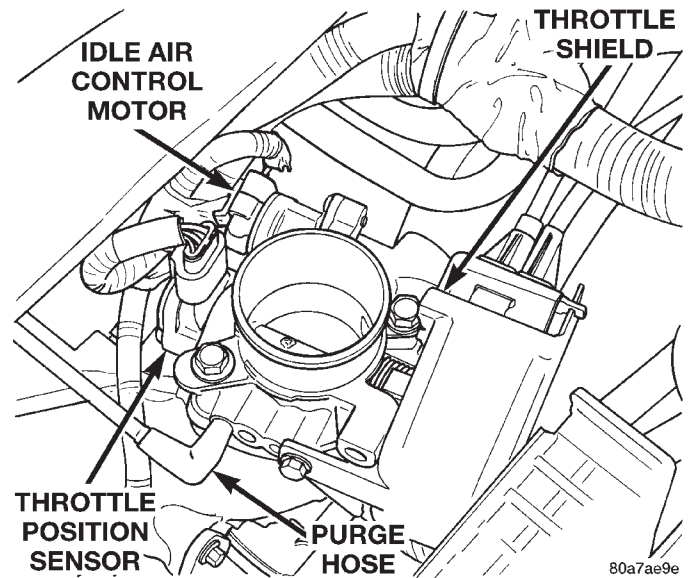
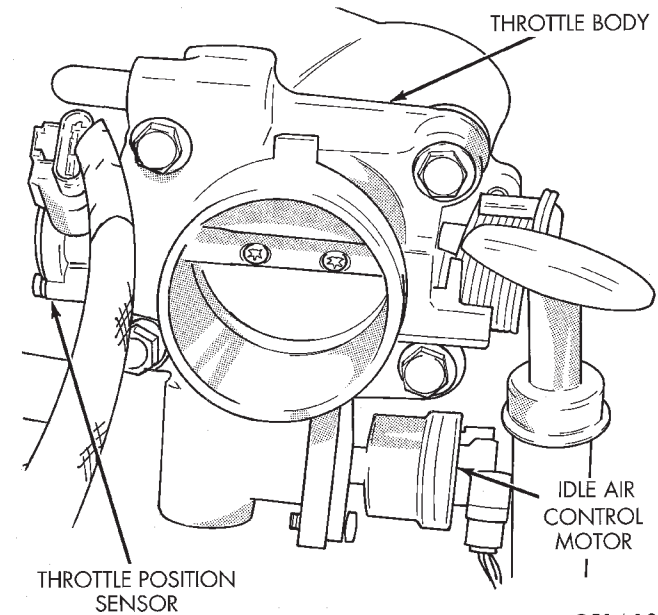

Fig. 34 Idle Air Control Motor and Throttle Position Sensor—2.4L Engine
Fig. 35 Idle Air Control Motor and Throttle Position Sensor—2.5L Engine
(4) Inspect accelerator cable, and cruise control cable (if equipped) connections. Check their connections to the throttle arm of the throttle body for any binding or restrictions.
(5) Check the electrical connections at the idle air control motor and throttle position sensor (Fig. 34) Or (Fig. 35).